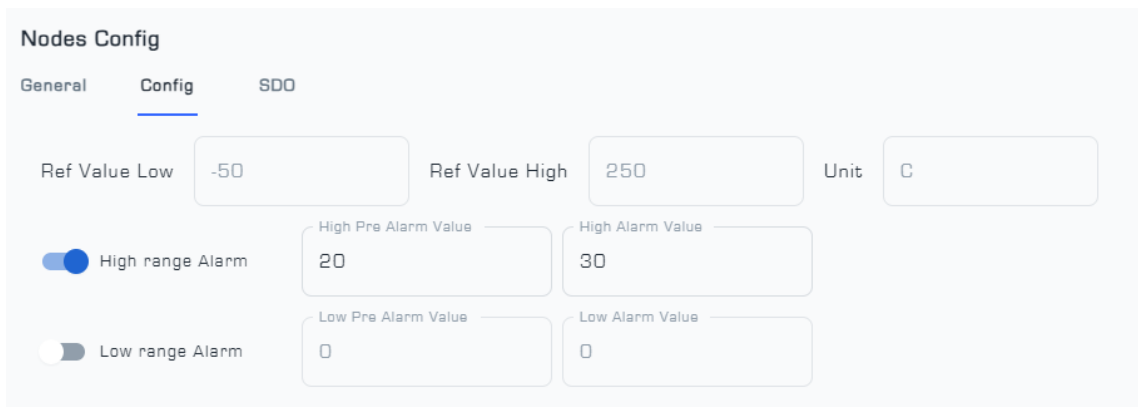

Figure 6: Config Menu from Nodes Config page
■ As depicted in Figure 6, the Spot temperature node's configuration menu allows for customization of the Node's alarm settings. The High Alarm Value and High Pre-Alarm Value parameters define the thresholds for triggering a primary and secondary alarm when the Node's temperature exceeds a critical maximum. Conversely, the Low Alarm Value and Low Pre-Alarm Value parameters establish the thresholds for alarms when the Node's temperature falls below a critical minimum.